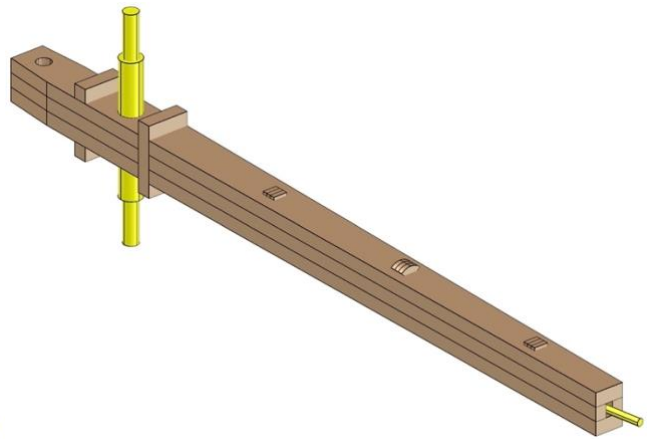

Fig. 61
- *Fig. 61* shows the completed process.